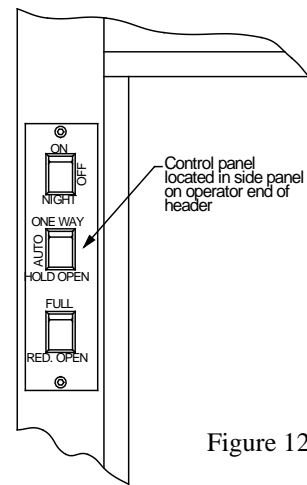

Figure 12
7. (Full Open Units Only) Remove the control panel switch assembly from the panel. (See Figure 12) Save the screws for reinstallation. Optional key switches with the same functions are available from customer service. Descriptions of switch functions are described in Chart 1.
1. Remove Control Panel Switch Assembly from the panel. (See Figure 12) Save screws for use during installation of the panel.